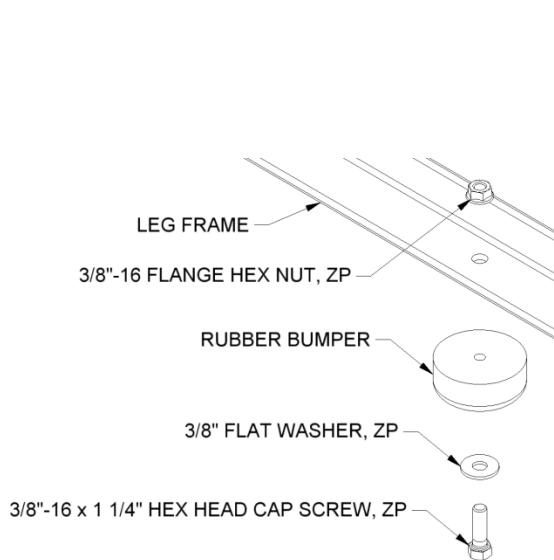

FIGURE: 1
1. Attach three rubber feet (bumpers) on the bottom of each leg as shown in figure 1.